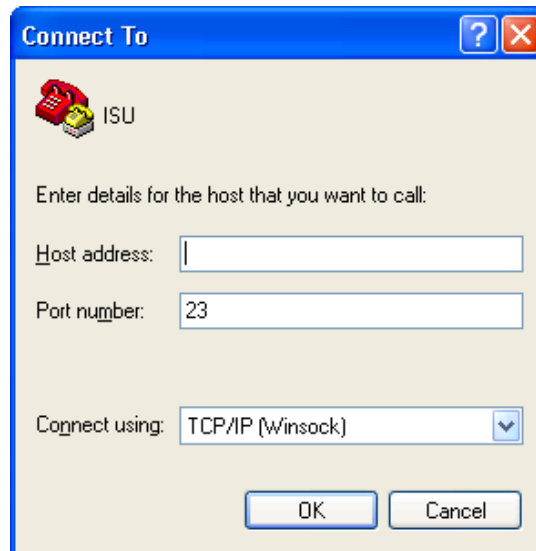

Figure 4-23 Selecting 'TCP/IP (Winsock)'
3. Select 'TCP/IP (Winsock)' in the **Connect using** field, and the interface shown in Figure 4-23 will appear.